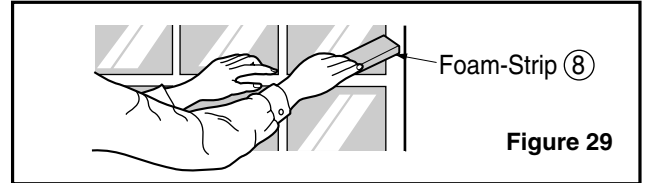

Figure 29
11. Cut the foam-strip ⑧ to the proper length and insert between the upper and lower window sash. (See Fig. 29)